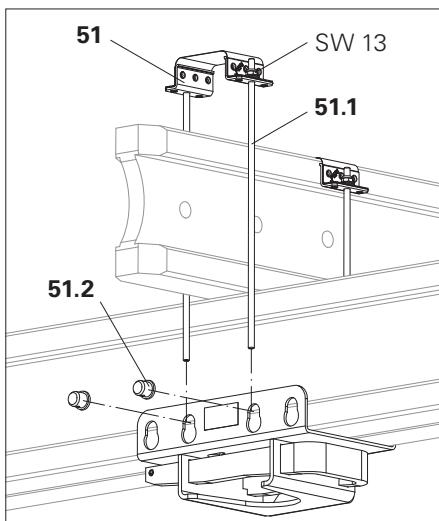

Fig. B4.08a
1. Slide on the Tie Set TK (51) from above onto the cross beam.
4. Tighten the Tie Set TK (51) using the nuts, SW 13. (Fig. B4.08a)